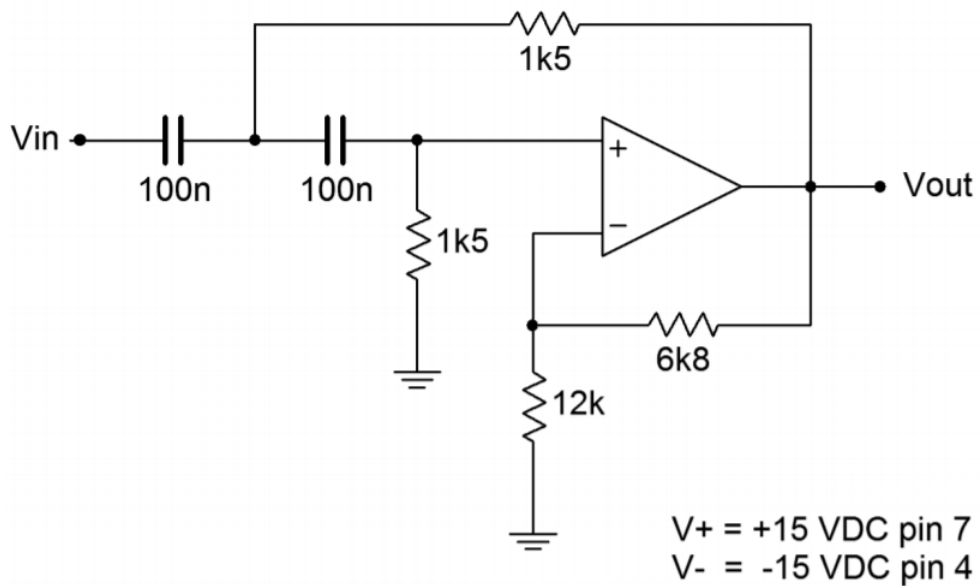

Figure 20.5.2
7. The circuit of Figure 20.5.2 is a second order high pass filter. Calculate and record the corner frequency (f_1) and mid-band voltage gain in Table 20.7.3.
8. Assemble the circuit of Figure 20.5.2.